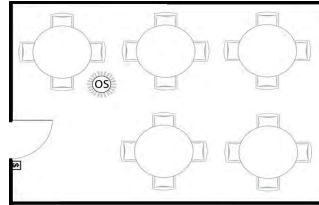

Figure 1
**Location:** Device should be mounted in a location free of obstruction from furniture, plants, walls and vibration (see Figure 1). The sensor must be mounted a minimum of 4 ft. away from any air vents. Avoid mounting the sensor close to heat source. When mounting directly to a ceiling light fixture, the lens of the sensor must be below the lowest point of the fixture.